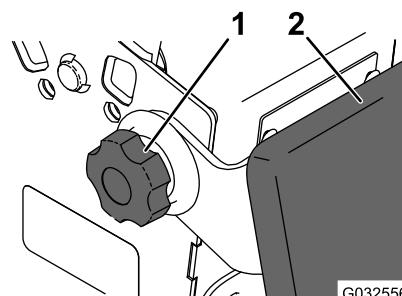

Figure 33
- Loosen the twist knobs on each side of the machine (Figure 33).